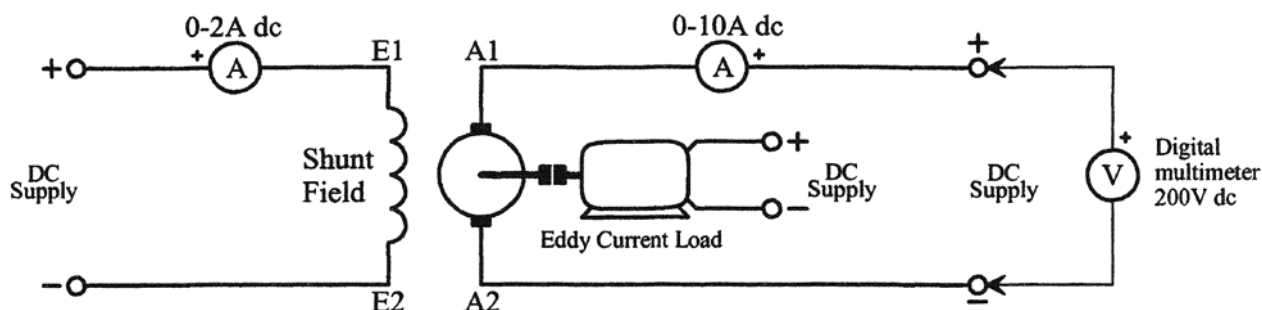

Figure 2
1. Connect the circuit as shown in figure 2.